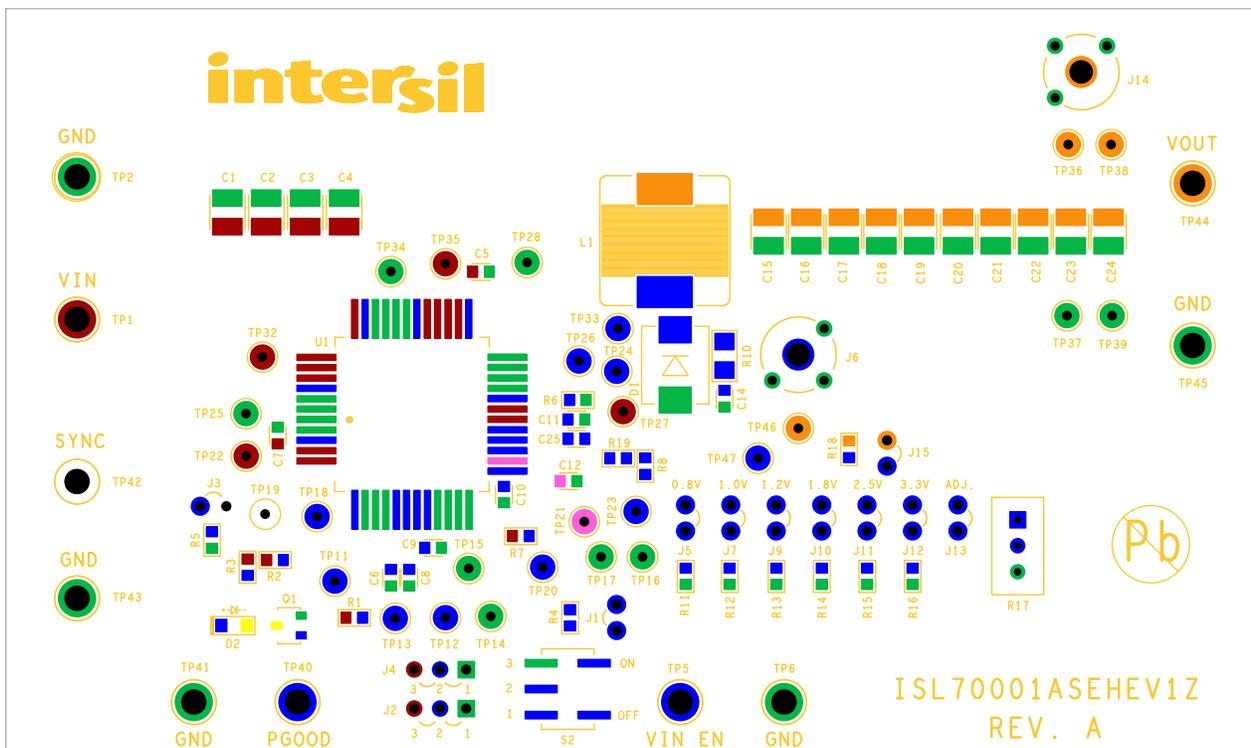

FIGURE 2. SILK SCREEN TOP
12. Refer to Figures 2 through 7 for an example layout.